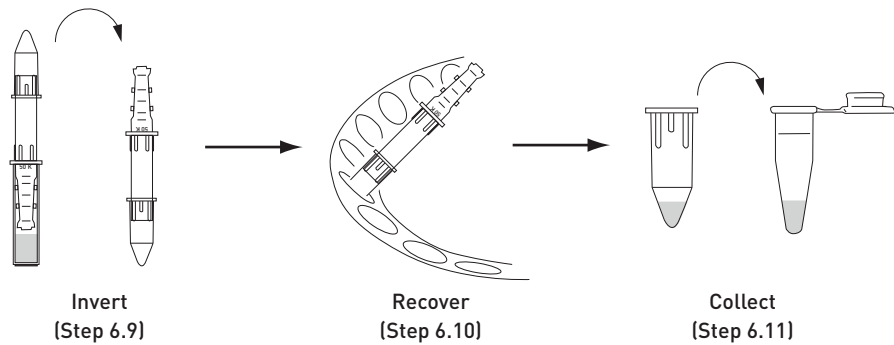

Figure 7 Optional purification and concentration of the labeled antibody conjugate
- 6.9 Invert the antibody concentrator into the conical collection tube as shown in Figure 7 (page 11).